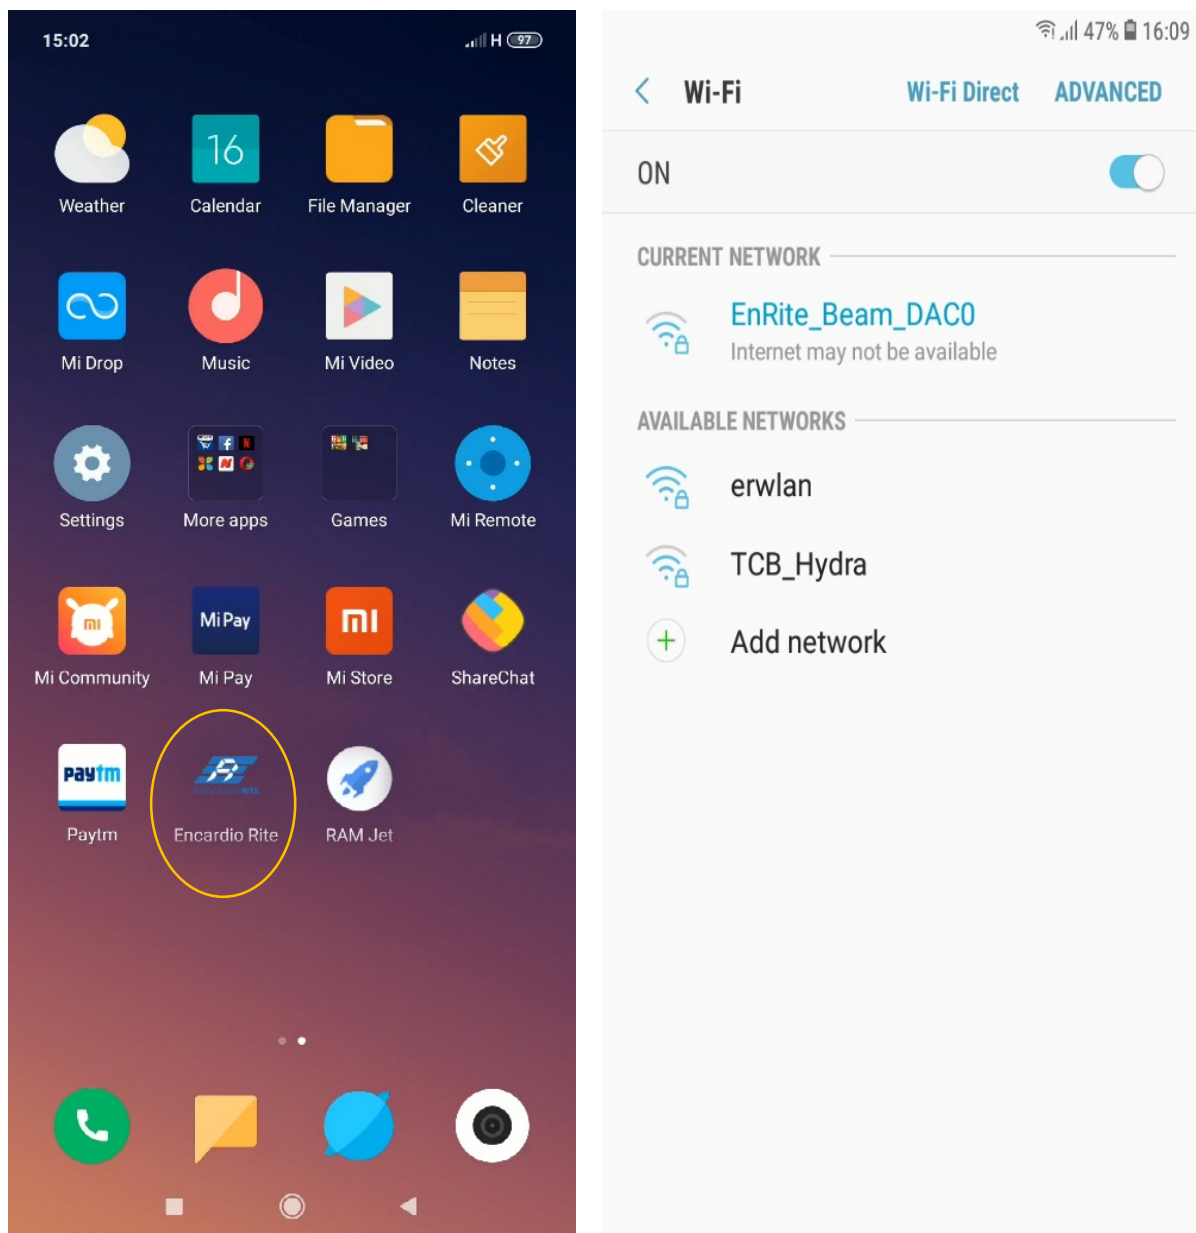

Figure 5-1
1. Install the apk file (provided with the supply) for “Encardio Rite” app on the phone. App shortcut will be available in the list of application software, as shown in left screenshot in figure 5-1.
2. Connect the Android phone to the ‘*EnRite_Beam_DAC0*’ Gateway Wi-Fi network as shown in right screenshot of figure 5-1. The password is *adminadmin*.